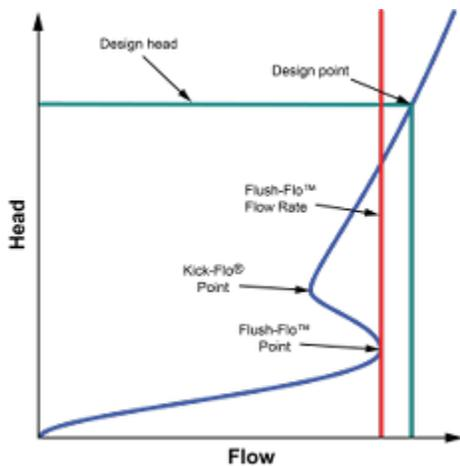

Figure 1: Typical Head Versus Flow Characteristics of Hydro-Brake® Optimum flow controls
- 1) **Flush Flo™** - The point at which the vortex begins to initiate and have a throttling effect. The red line on the characteristic curve highlights the flow rate at the Flush-Flo™ point (see figure 1 above). This point on the Hydro-Brake® Optimum curve is usually equal to, if not much nearer, to the maximum design flow (Design Point) than other vortex flow controls leading to more water passing through the unit during the earlier stages of a storm, thus reducing the amount of water that needs to be stored upstream.